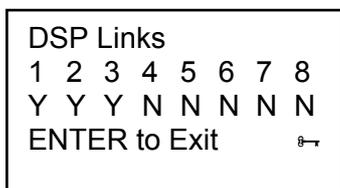

Figure 50. Display of DSP Link Information
- The display will now show details of the eight DSP configuration links (JP1 – 8). If the link is fitted there is a 'Y' beneath the appropriate number and 'N' if it is not fitted as shown in figure 50.